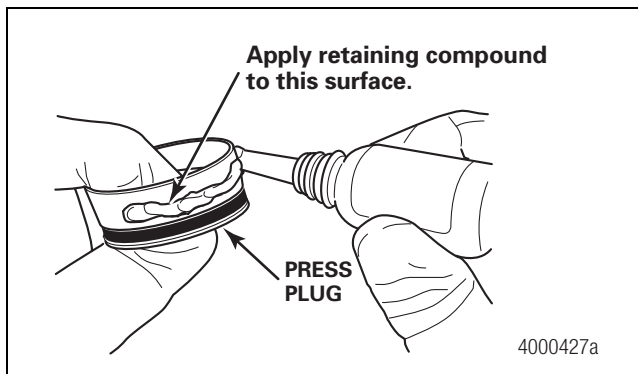

Figure 14
- Put on a new pair of latex gloves. Apply the retaining compound included in the installation kit evenly to the **OUTSIDE** diameter of the press plug. The installation kit contains enough retaining compound for four wheel ends. The press plug must be installed within 10 minutes of applying the hardening compound to ensure that the compound hardens correctly. Figure 14.